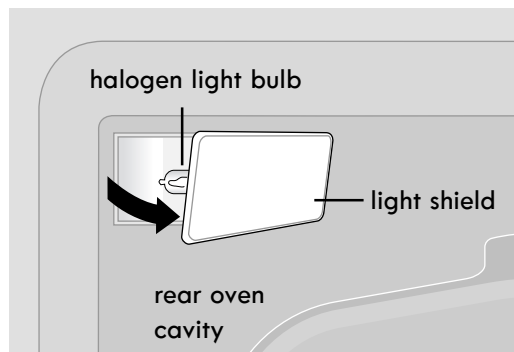

Fig. 1
2. Remove interior oven light shield (See Fig. 1).